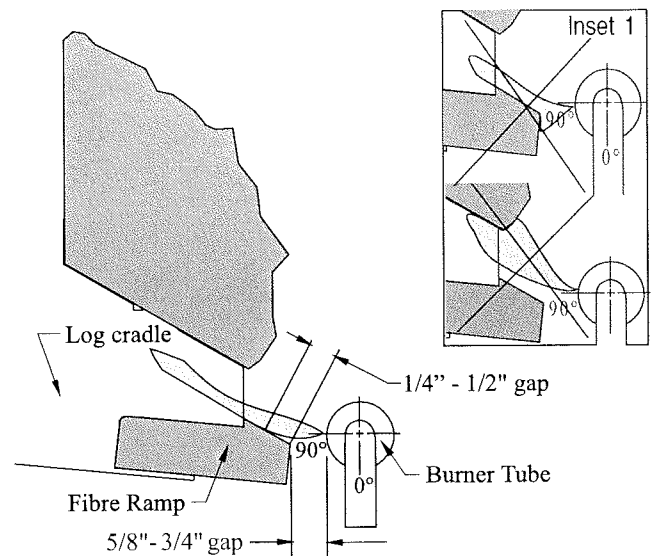

**Figure 8a.** Mounting the front log.
1. The ramp and rear log is pre-mounted in the metal log cradle. However, these logs may shift during shipping or installation. Check to ensure that they are properly positioned (as shown in figure 8a) before installing the top logs. The ramp has a groove cut into the bottom near the front edge. This groove should be sitting on the front edge of the log cradle.
2. To mount the front log, line up the two retaining brackets on bottom of the log with the mounting spikes on the log cradle. Gently push the log onto the mounting spikes. Refer to figures 8a and 8b for correct placement.